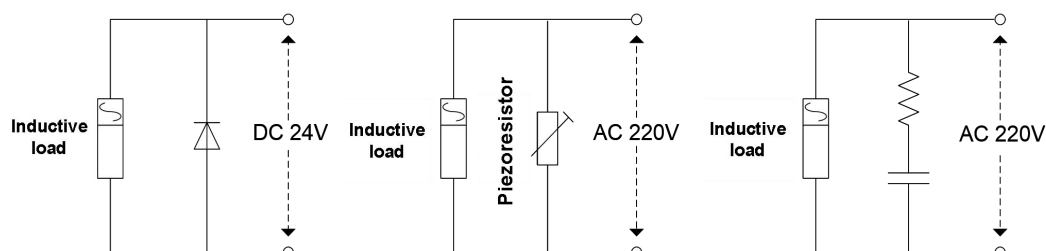

Figure 3-10 Application example of inductive load surge suppressor
- ◆ When the inverter is connected to the inductive load equipment (e.g. electromagnetic contactor, relay and solenoid valve), surge suppressor must be installed on the load equipment coil, as showed in Figure 3-10